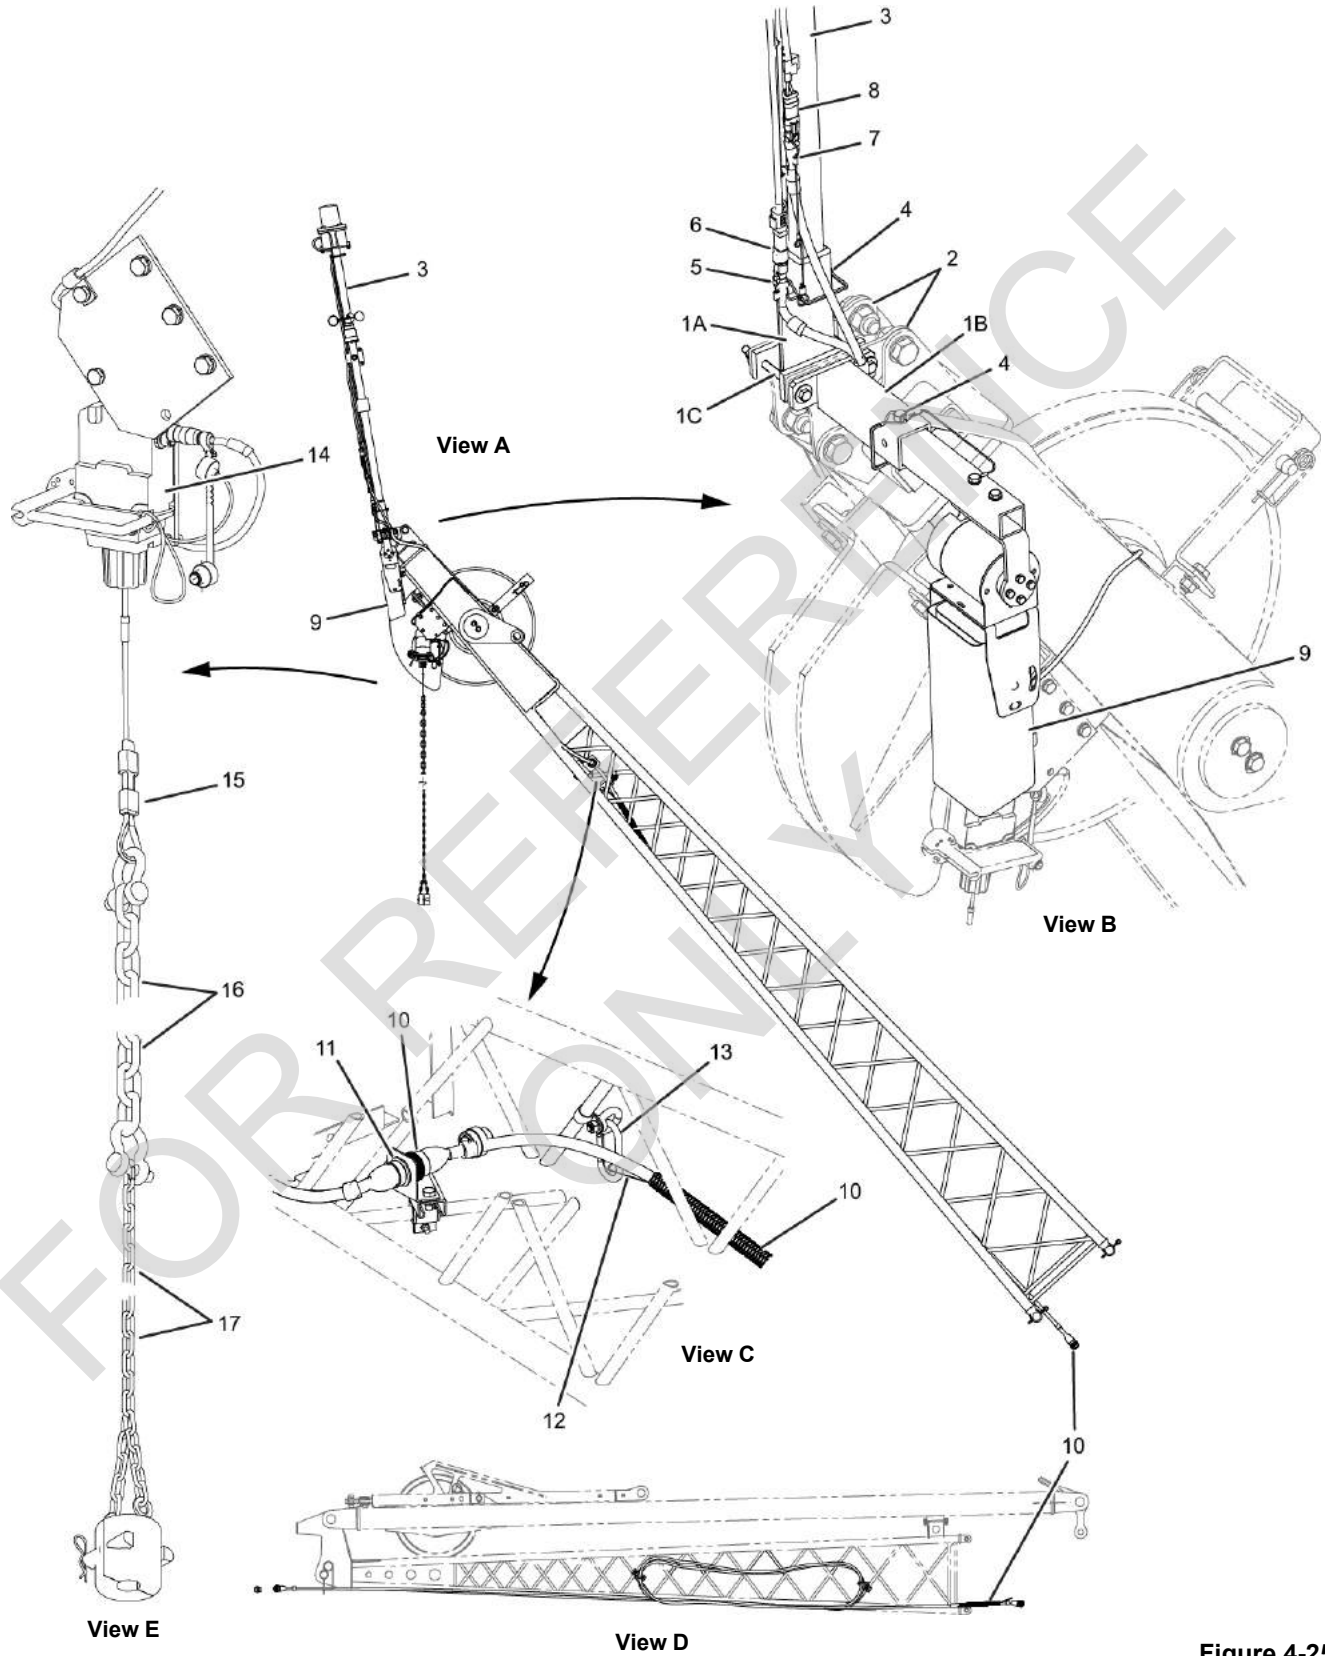

Figure 4-25
Legend for Figure 4-25
See Figure 4-25.
1. Remove the camera (9, View A, Figure 4-25) from storage in the parts box.
2. Assemble the camera (9, View B, Figure 4-25) to the bracket (1B) and install the safety pin (4).
See Figure 4-25 for the following procedure.